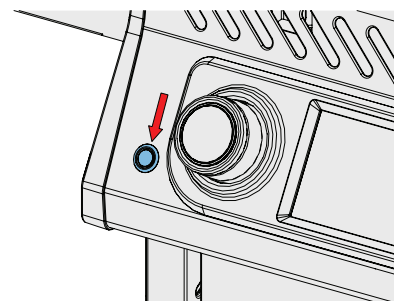

Fig. 2
3. Pressione o Interruptor **LIGAR/DESLIGAR**. (Fig. 2)